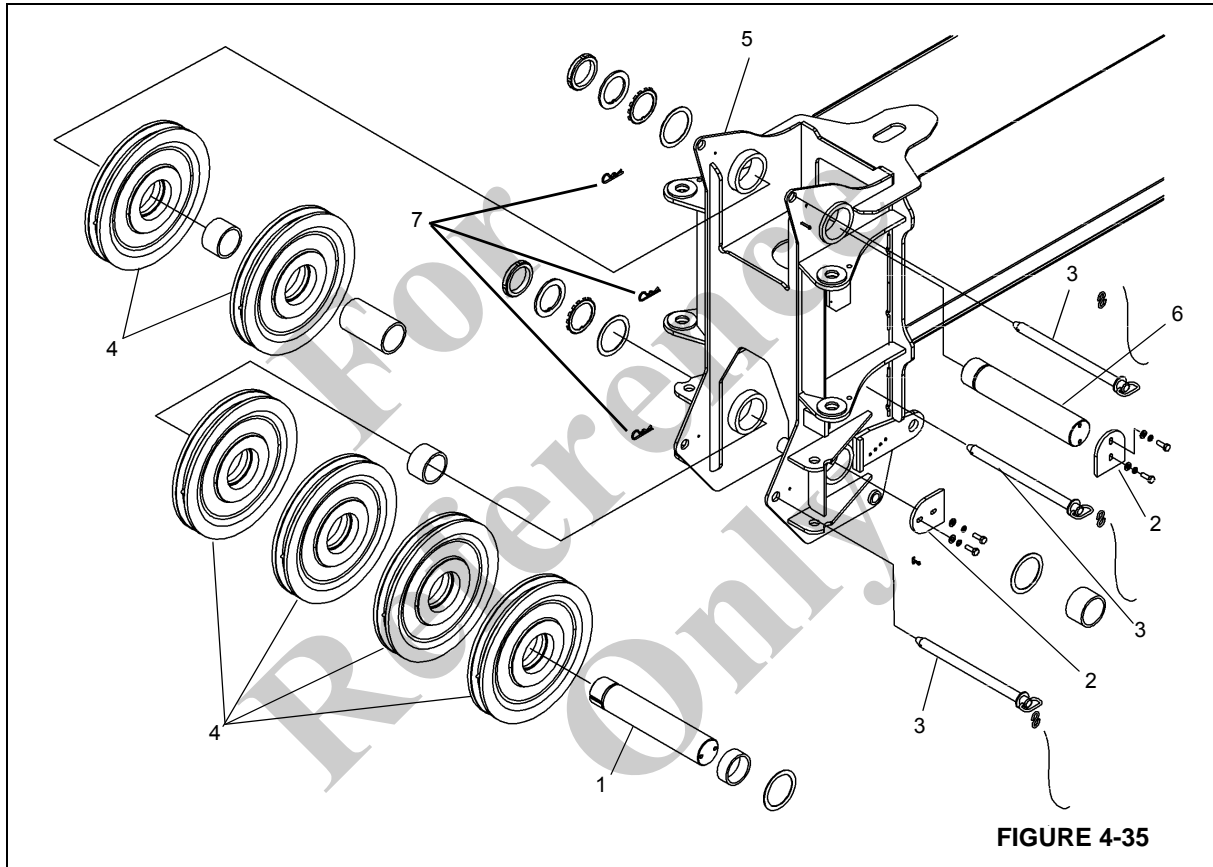

FIGURE 4-35
1. Remove the clip pins from the cable retainer pins (Figure 4-35, 7) and remove the cable retainer pins (Figure 4-35, 3) from the upper and lower part of the boom nose.
2. Remove the two bolts securing the end cap (Figure 4-35, 2) to the upper boom nose sheave shaft (Figure 4-35, 6). Remove the end cap.
3. Carefully pull the upper boom nose sheave shaft (Figure 4-35, 6) from the boom nose, removing the spacers, and boom nose sheaves (Figure 4-35, 4). Note the quantity of the spacers for installation.
1. Install the spacers and sheaves (Figure 4-35, 4) onto the sheave shaft while installing the sheave shafts into the lower boom nose (Figure 4-35, 5).
3. Install the locknut, washer, keyed washer, and shims (if necessary) onto the boom nose sheave shaft with the chamfer side out. Install the end cap (Figure 4-35, 2) onto the opposite end of the sheave shafts and secure in place with the two bolts.
6. Install the cable retainer pins (Figure 4-35, 3) into the upper and lower part of the boom nose and secure in place with the clip pins (Figure 4-35, 7).